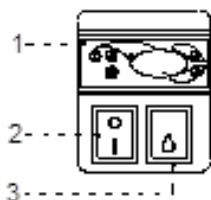

Fig.8 Control panel
- Turn on the main switch Fig.8/2 (p.15), which activates the thermostat, and then aggregate of the device
- Set the temperature on thermostat control panel Fig.8/1 (p.15) (thermostat service details on p.20 or 21)
- Turn on the lighting switch Fig.8/3 (p.15)